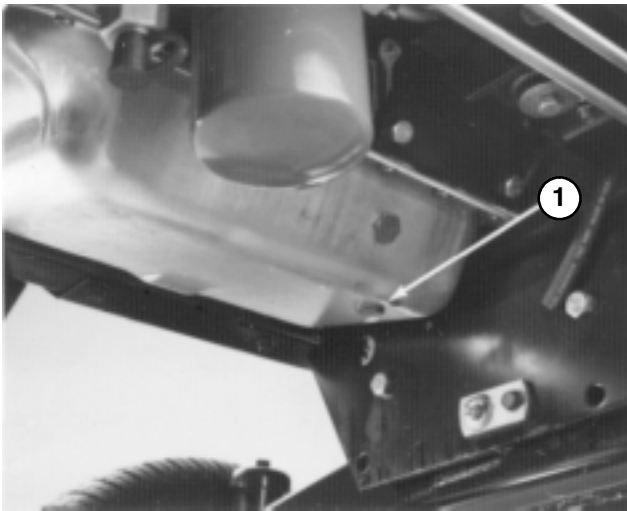

Figure 40
ENGINE OIL AND FILTER (Fig. 40–41)
1. Remove drain plug (Fig. 40) and let oil flow into drain pan. When oil stops, install drain plug and new plug seal.